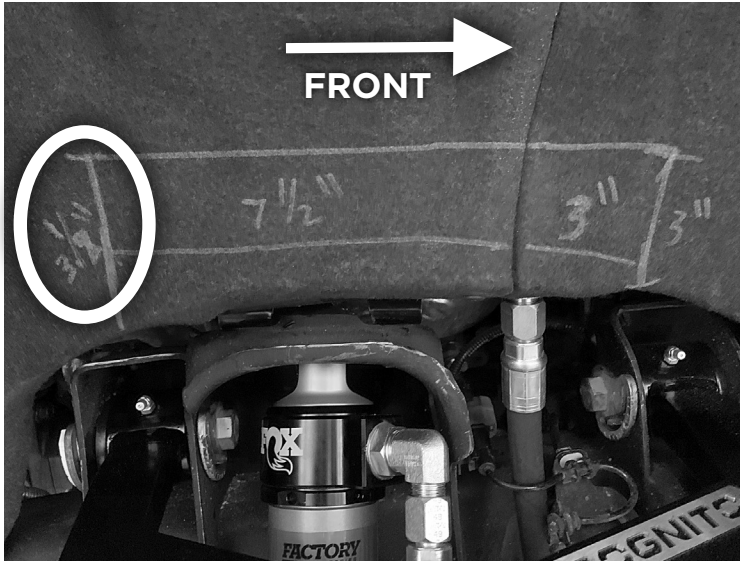

Figure 4: Passenger side shown
- Using the end of the 7-1/2" line you just made, draw a line starting from the bottom of the fender liner that is 3-1/2" tall that goes towards the top of the fender liner (Figure 4).